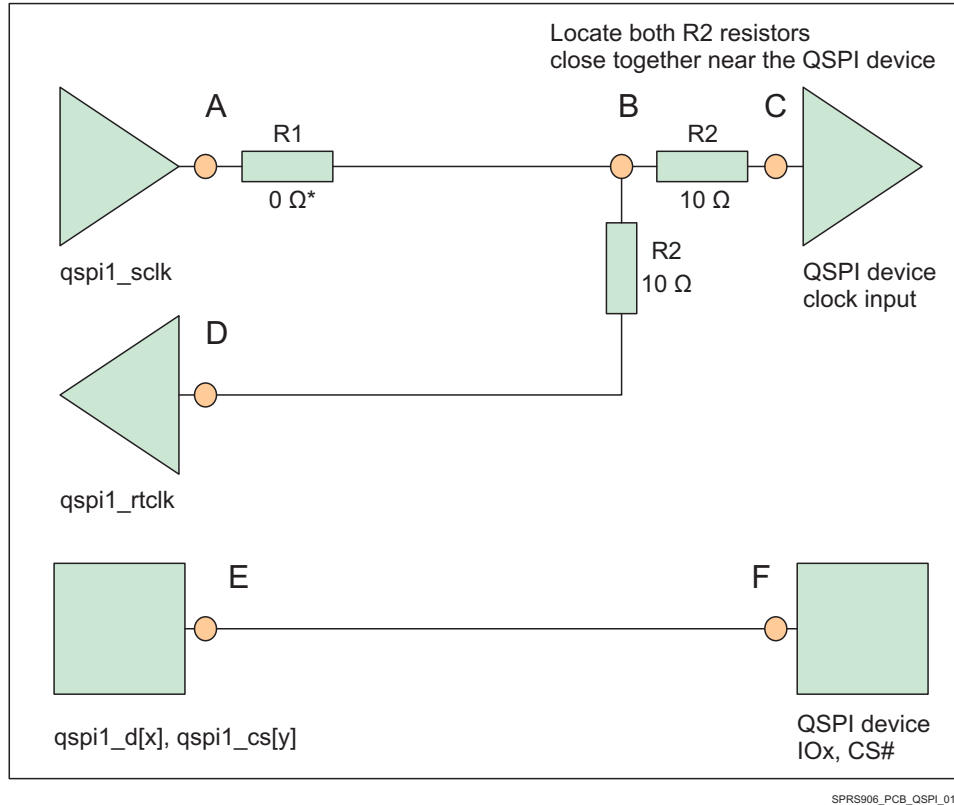

图 7-30. QSPI Interface High Level Schematic
- 50  $\Omega$  PCB routing is recommended along with series terminations, as shown in 图 7-30.